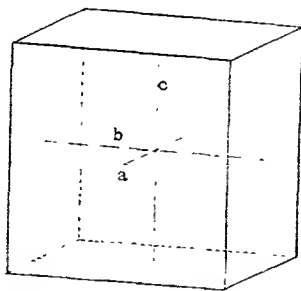
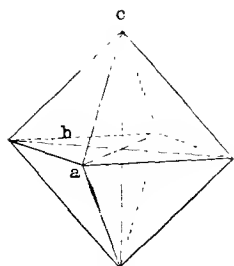

Figure 24. Cube Showing Three Axes
Figure 25
What are crystals? We need not go outside our own homes to begin our study of them. Right on our dining table there are multitudes of them. Pick up the salt cellar and shake a little salt into your hand and examine it with your pocket lens. If you have never done this before, you will be amazed to find that table salt consists of great numbers of tiny cubes, figure 24. These cubes are true crystals of salt and each
**How a potato aids crystal study.** It seems like a far cry from a potato to a crystal, but let us see how a potato can help us to understand several of the forms in the isometric system. We want to make from it the crystal form shown in figure 25, called the *octahedron*, so named because of its eight bases, the Greek *octa*, meaning *eight*, and *edra*, meaning *base*. Select a big round potato and cut from it with a sharp paring knife, a two inch cube. Measure the sides with a rule and see that all of the edges are the same length and try to make the angles perfect right angles. Take the rule and with a sharp-pointed indelible pencil, draw lines lightly across each face diagonally from corner to corner. They will meet at the center of the faces. It is easy now for us to imagine that there are lines drawn from the center of each face to the center of the face opposite to it, and we know that they would meet at the center of the cube and would all be at right angles to each other and of the same length. Let us bear these facts in mind while we proceed with our work.
Let us continue to shave off the potato in the same direction, a little at a time, first above and then below, parallel with the eight new faces. At last we succeed in cutting away all of the cube faces and there will be only the faces of the octahedron, as shown in figure 25. Note that the distance between the points of the octahedron is the same as that between the centers of the opposite faces of the cube, figure 24, therefore, if it were a true crystal, it would belong to the same system of crystals as the cube. When you go out collecting be on the lookout for little black octahedrons of magnetite: they are very common in some localities. Chromite too almost always occurs in octahedrons when it is crystallized and this form is common also in cuprite and diamond.
**Tetragonal Crystals.** If you compare figures 25 and 36, you will see at a glance a marked difference, even though each of them has eight triangular faces and their three axes are at right angles. You notice that the vertical axis is much longer in figure 36 than in figure 25 and much longer than the two horizontal axes. In figure 37 the vertical axis is shorter than the two horizontal axes, which are of the same length. We have thus quickly learned not only the difference between the first and second of the great systems of crystals, but also that in this second system called the *tetragonal system*, there are *three axes at right angles to each other, the vertical axis being either longer or shorter than the two equal horizontal axes.*